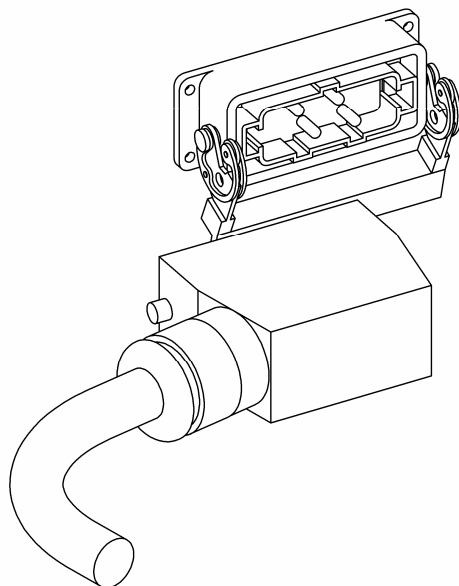

Figure 3-3. Connection Power to ASTRON® Equipment
- Securely connect a four-conductor (3-phase and ground) cable or conduit terminating in an ILME Insert p/n CXF 4/0, Hood p/n CA016L29 style connector to the AC power connector. A cable strain relief ILME part number MGC29 is also available. Refer to figure 3-3. The power connection is